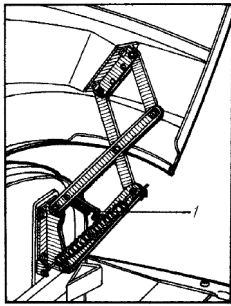

Fig. 3. Hood Lifting
6. When servicing the engine, fix the hood lifting mechanism with a safety hook 1 (Fig.3).